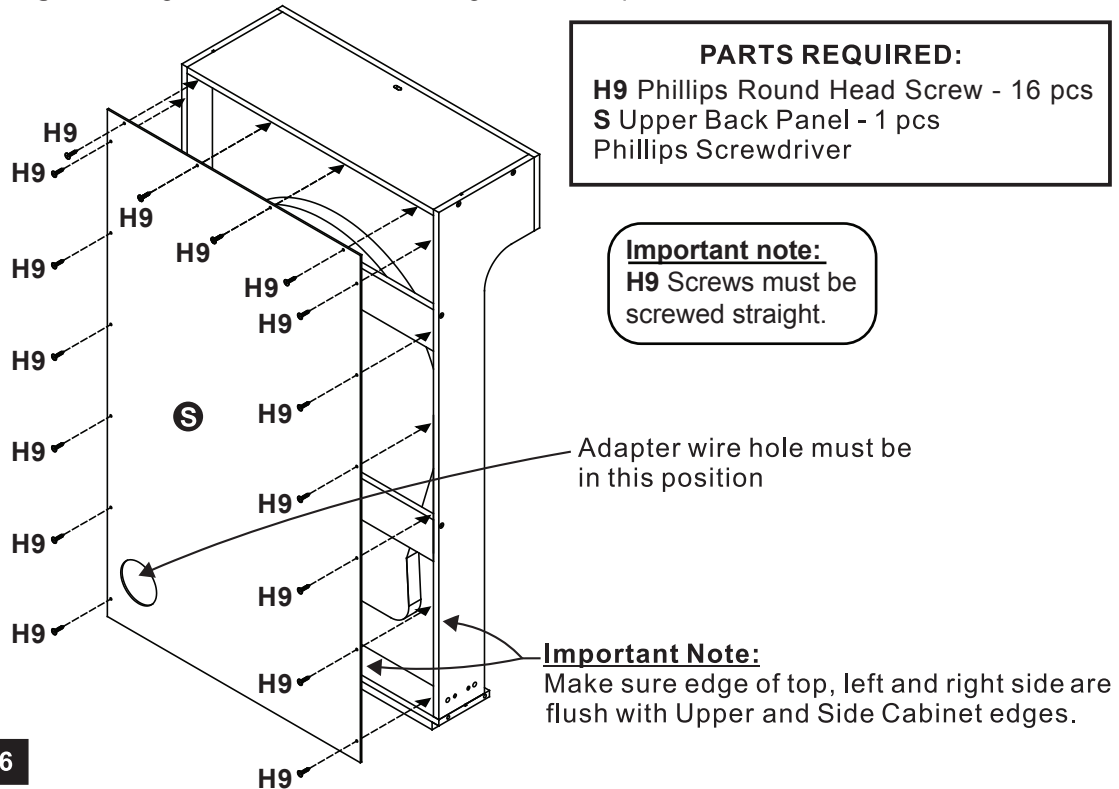

Figure 6
10. Attach Part **S** to back of assembled Upper Cabinet using Phillips Round Head Screw (**H9**). See **Figure 6**. Tighten, but do Not over tighten or strip out **H9** Screws.